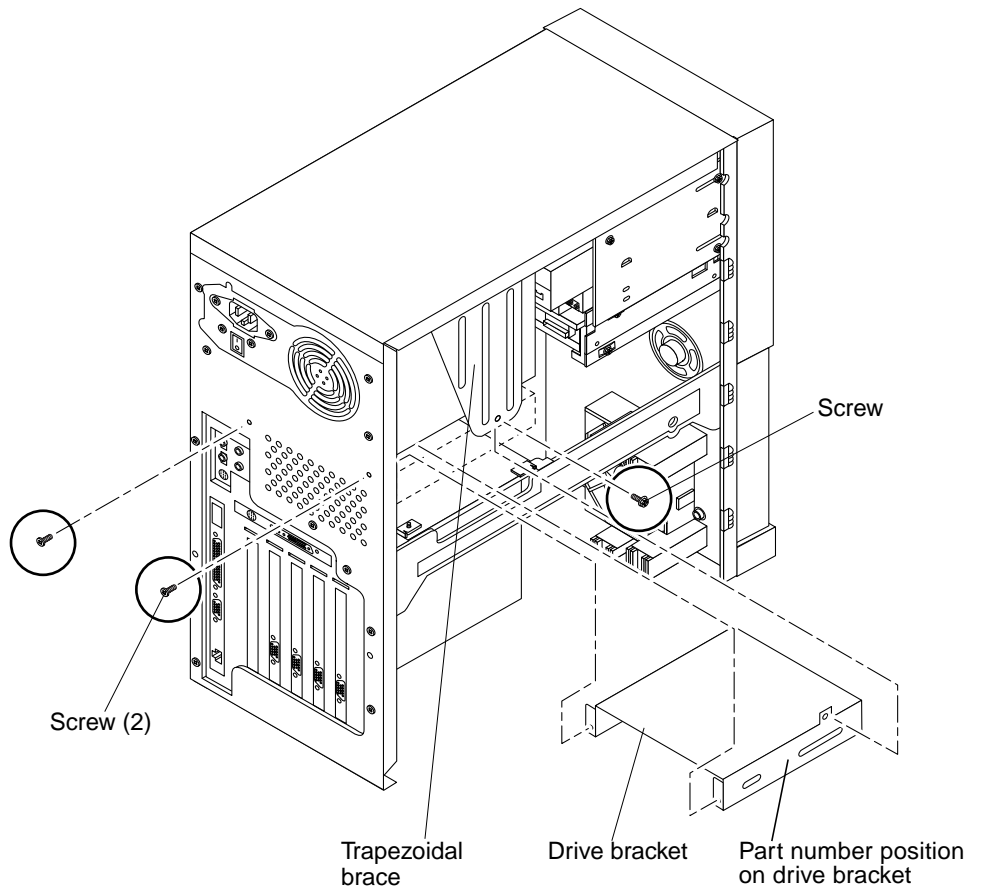

FIGURE 14 Installing or Replacing a Rear Hard Drive Bracket (Ultra 10)
- 1. Remove the existing rear drive bracket from the Ultra 10 system as follows (FIGURE 14):**
- 2. Install the new rear drive bracket into the Ultra 10 as follows (FIGURE 14):**